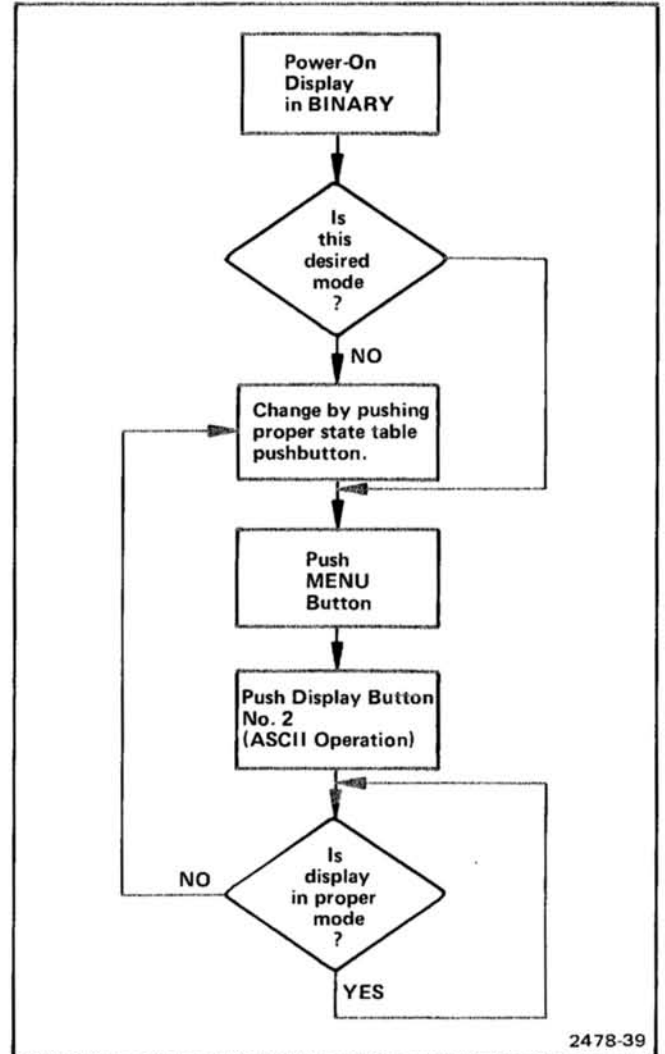

Figure 4-3. Changing display mode in ASCII operation.
- c. The number to the right of the ASCII character (or mnemonic) is its value in either hex ("H" precedes the value), octal ("O" precedes the value), or binary depending on which STATE TABLE push button (HEX, OCTAL, or BINARY) was depressed prior to selecting the MENU push button. See Figure 4-3.